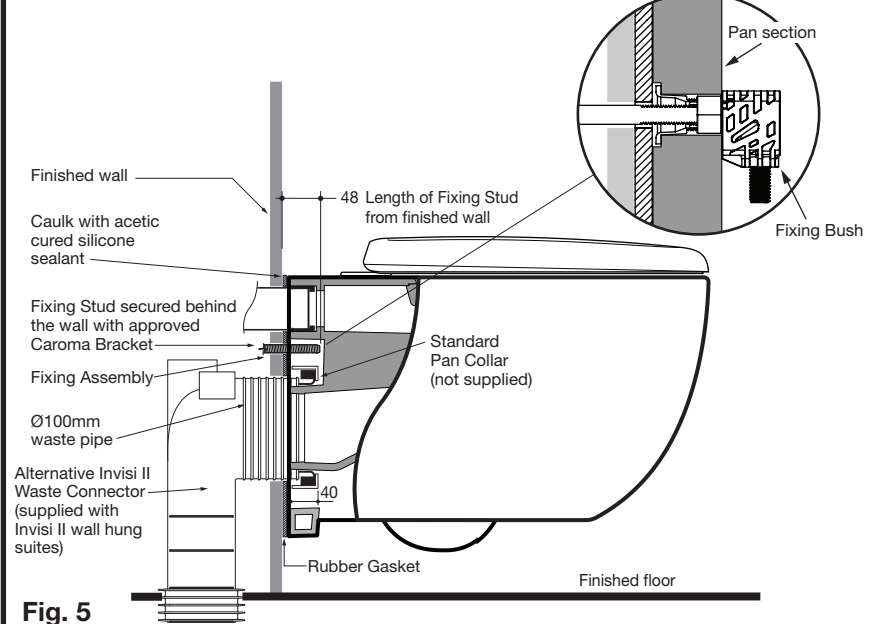

Fig. 5
- 3- Set the length of the Fixing Studs 48mm from the finished wall surface, as detailed in **Fig. 5**.